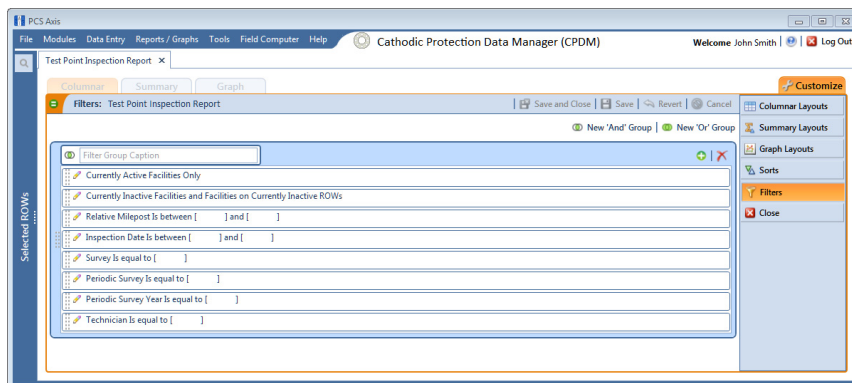

Figure 16-45. Filters
- 3 Click the **Customize** tab  **Customize**, and then the **Filters** button  **Filters** to open the *Filters* page (Figure 16-45).